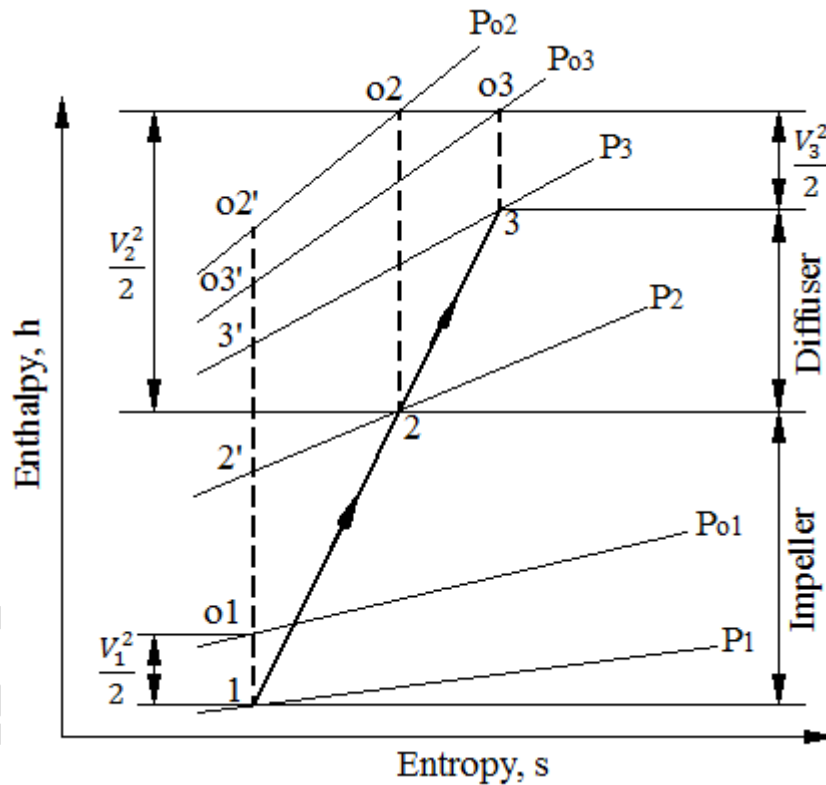

Fig. 5.4 Enthalpy-entropy diagram of a centrifugal compressor
**Answer:** Figure 5.4 shows the enthalpy-entropy diagram for a centrifugal compressor stage. State points with superscript are correspond to isentropic compression processes. Air enters the impeller vanes with lower absolute velocity  $V_1$  and leaves with large absolute velocity  $V_2$ . This absolute velocity reduces to  $V_3$  when it passes through the diffuser vanes, which is slightly higher than  $V_1$ . It can be observed that stagnation pressure  $P_{o1}$  will be higher than static pressure  $P_1$  by an amount  $\frac{V_1^2}{2}$ . Similarly  $P_{o2}$  is much higher than static pressure  $P_2$  by an amount  $\frac{V_2^2}{2}$ .